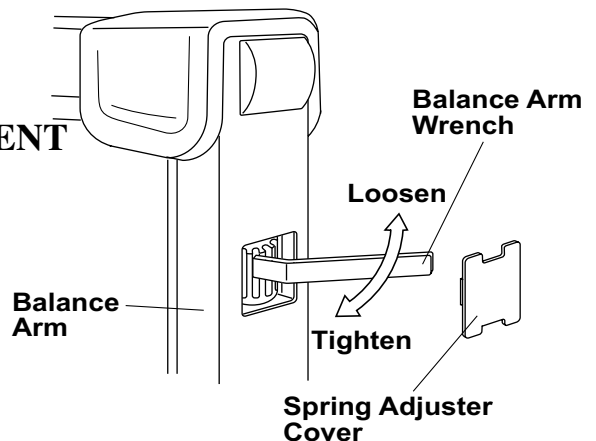

Fig.4-2 Balance Arm Tension Adjustment
2. If either balance arm drifts higher or lower from the set position, remove the spring adjuster cover and adjust the balance arm spring tension with the balance arm wrench. (Fig.4-2)